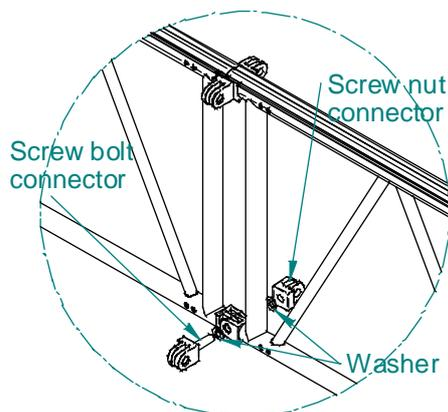

Fig. 3
3. Insert a second washer and then screw the connector to the screw nut connector until the forked ends of the connectors are oriented in the direction illustrated in figure 3.